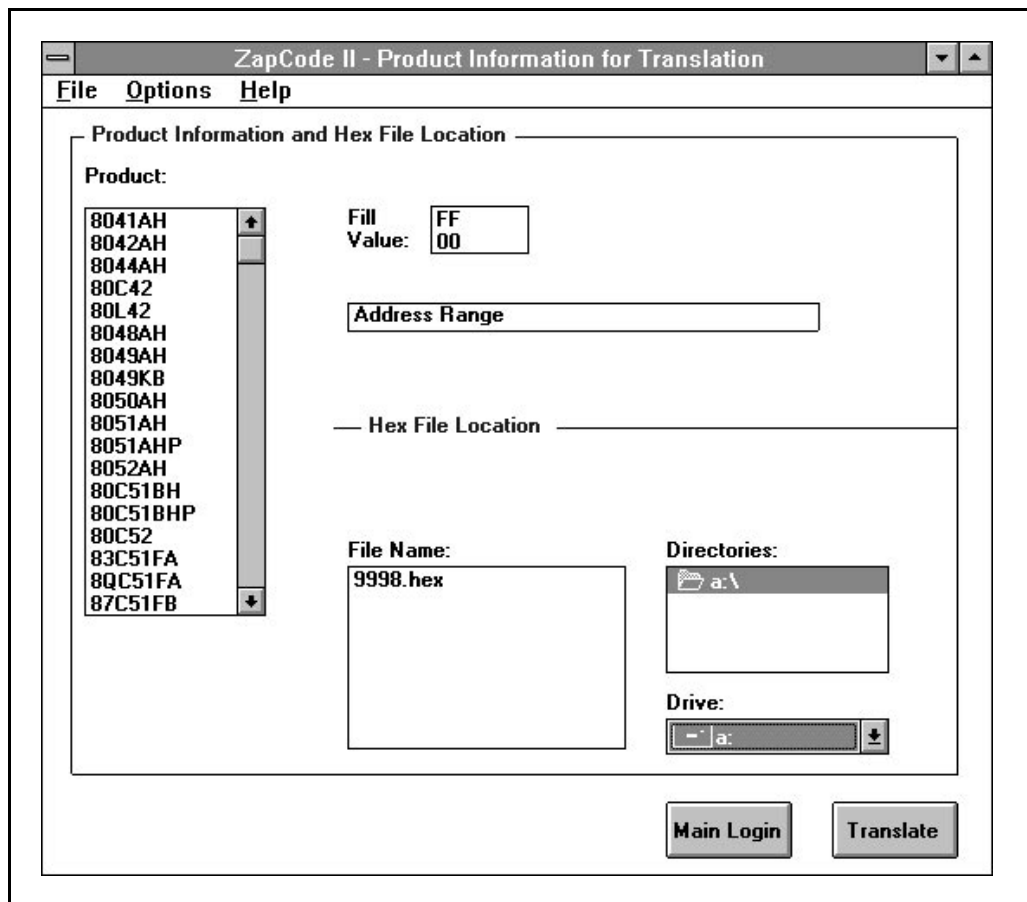

Figure 8-1. Product Information for Translation Screen - Without Security Feature
1. Click on the **Translate Hex File** button on the welcoming screen. The Product Information for Translation screen will display (Figure 8-1). When first opened, this screen does not display the “Enable Security Bit” field. This field appears only after you select a product for which security features are offered. Figure 8-2 illustrates the “Enable Security Bit” field when a product offering security features is selected.